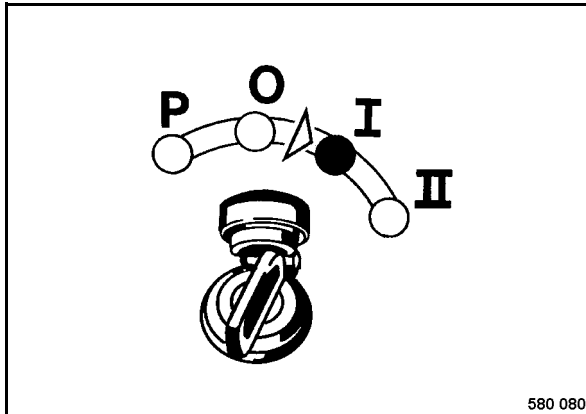

Fig. 198
- Turn the ignition key (Fig. 198) to position "I".